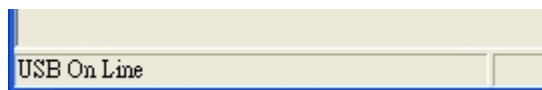

Figure 1- 15
Step 1: Click USB Scan on the interface of HY12P65 ENOB Test Tool. "USB On line" will show up when the connection is successful, as Figure 1- 15. If not, please make sure the hardware connection or power supply is correct.